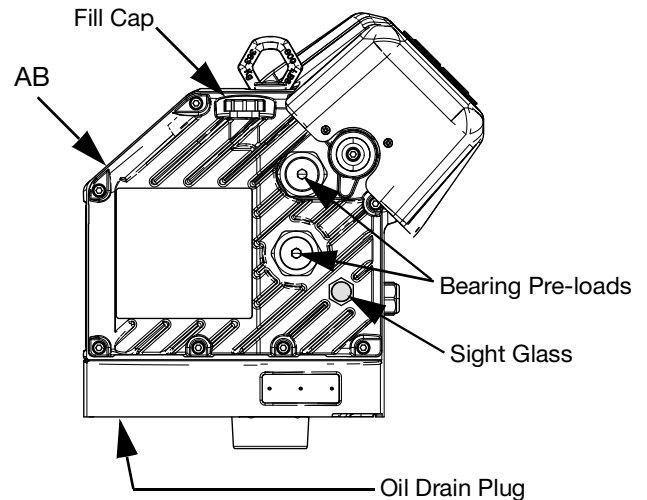

FIG. 33: Sight Glass and Oil Fill Cap
3. Remove the oil drain plug. See FIG. 33 for the location of the drain plug. Allow all oil to drain from the Driver (AB).
See FIG. 33 below. Check the oil level in the sight glass on a regular basis. The oil level should be near the half-way point of the sight glass when the Driver (AB) is not running. If the oil is low, open the fill cap and add Graco Part No. 16W645 ISO 220 silicone-free synthetic EP gear oil.